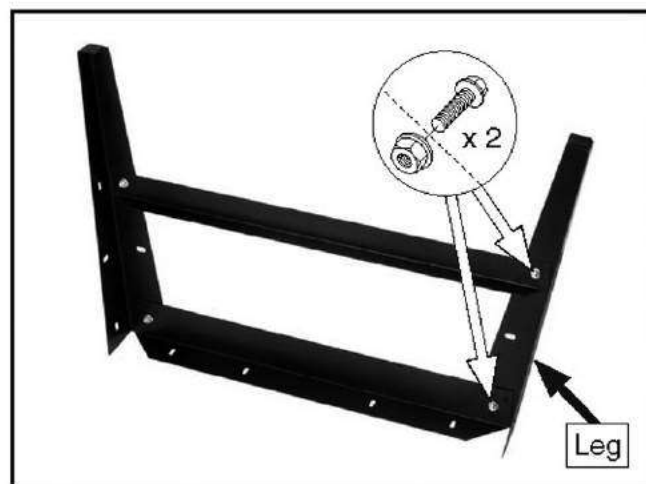

Figure 5. A completed stand leg assembly.
3. Secure a second leg to top and bottom long brackets with (2) M8-1.25 x 15 carriage bolts and flange nuts, as shown in **Figure 5**.